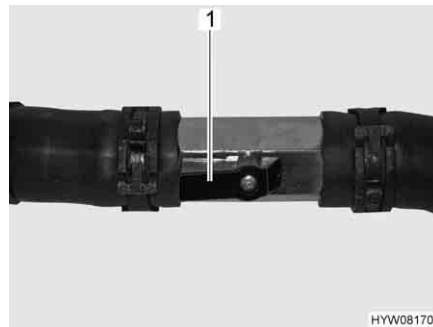

Fig. 186 Stopcock is open
- Set the lever (Fig. 186, 1) of the stopcock parallel to the pipe (Fig. 186). The wider the stopcock is opened, the higher is the heat output.